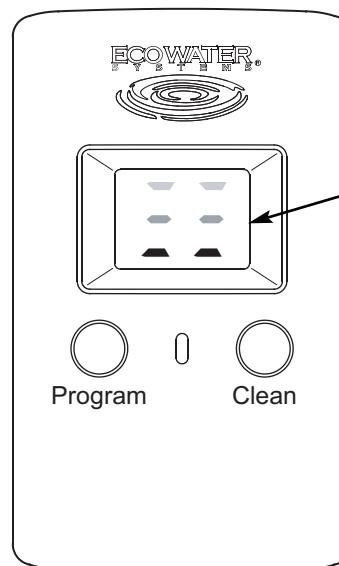

FIG. 20
1. Press the CLEAN button and hold it for at least 2 seconds. When the 2-digit display changes to show moving dashes (See Figure 20), release the CLEAN button.